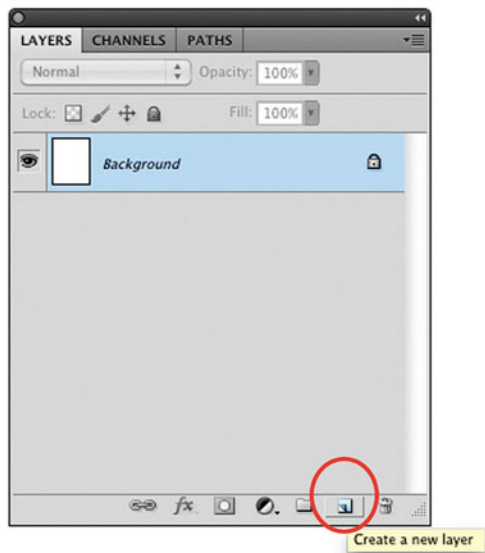

FIGURE 3.19 Creating a new layer in Adobe Photoshop from the Layers palette.
- Create a new layer on your test page document by clicking on the second button from the right at the bottom of the **Layers** palette, as shown in Figure 3.19.